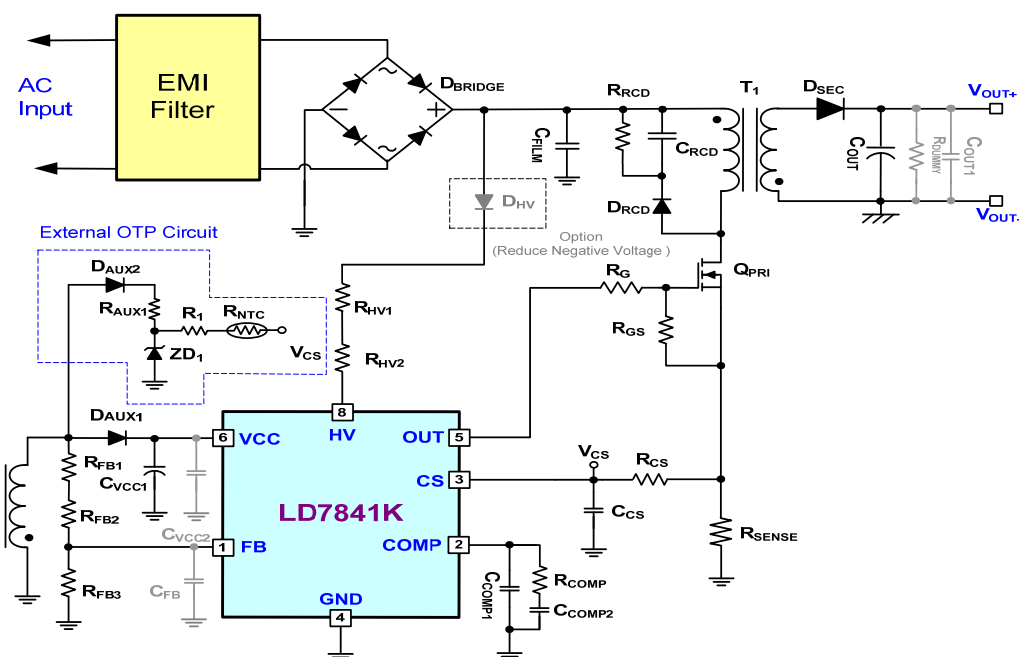

Fig. 1 Reference Circuit Design with CS_OTP Function
- 2) Once the OTP function is used, it is recommended to use the external OTP Circuit as Figure 1 to avoid the false trigger due to the slew rate of V_{FB} falling time.